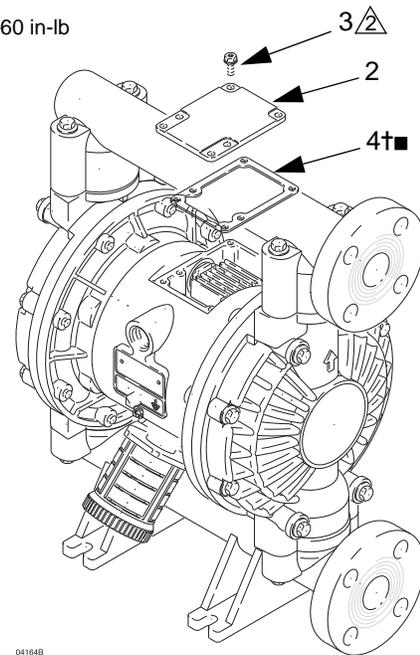

Fig. 7
2. With a Torx (T20) screwdriver or 7 mm (9/32") socket wrench, remove the six screws (3), air valve cover (2), and gasket (4). See Fig. 7.
10. Align the valve gasket (4†■) and cover (2) with the six holes in the center housing (1). Secure with six screws (3), using a Torx (T20) screwdriver or 7 mm (9/32") socket wrench. Torque to 28 to 33 in-lb (3.2 to 3.7 N-m). See Fig. 7.